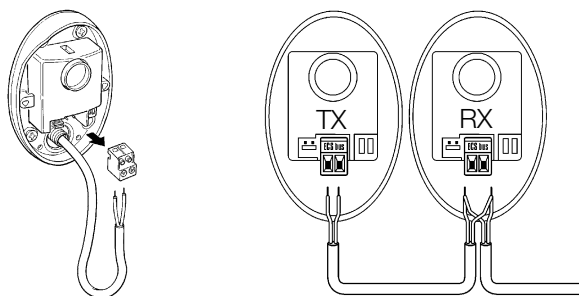

Figure 48
**8** Connect the electric cable to the appropriate TX and RX terminals. From an electrical viewpoint, TX and RX must be connected in parallel as shown in figure 48.